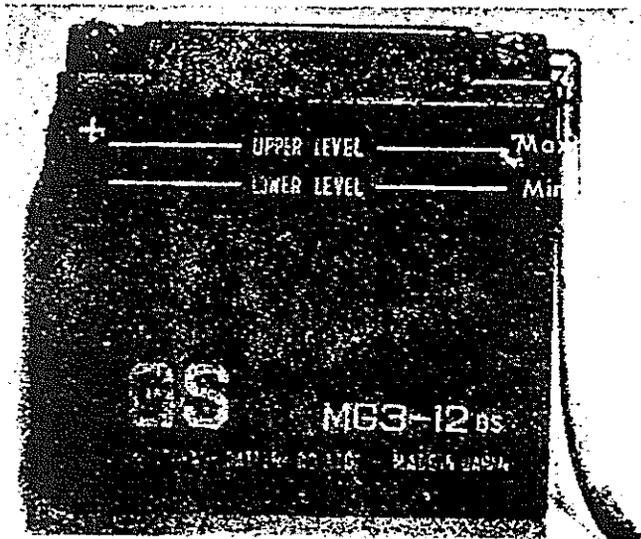

Fig. 29
- b) When the electrolyte level falls below the lower line on the battery, add only distilled water to the level of the upper line. (Fig. 29)